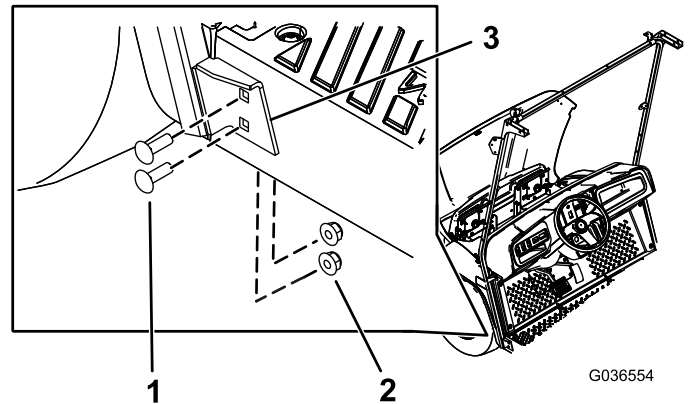

Figure 6
- Secure the lower bracket of the windshield support to the left side of the machine using 4 carriage bolts (5/16 x 1 inch) and 4 flange nuts (5/16 inch) in the holes that you drilled in step 2 (Figure 6).